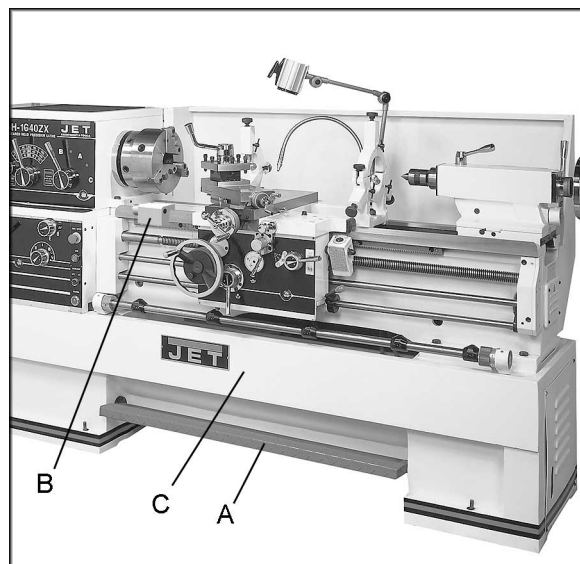

Figure 15
21. **Foot Brake** (A, Figure 15): The connecting rod mechanism is in the bed stand. The braking device is in the pulley of the headstock. Press the pedal to stop all lathe functions. (**Caution:** Lathe still has power.)
22. **Micro Carriage Stop** (B, Figure 15): can be used during manual feed operation. The dial can be turned for fine tuning the position of the stop. The micro carriage stop can be moved along the bed by loosening the two socket head cap screws underneath the stop.
23. **Bed Cover** (C, Figure 15): can be easily removed to clean out the stand.